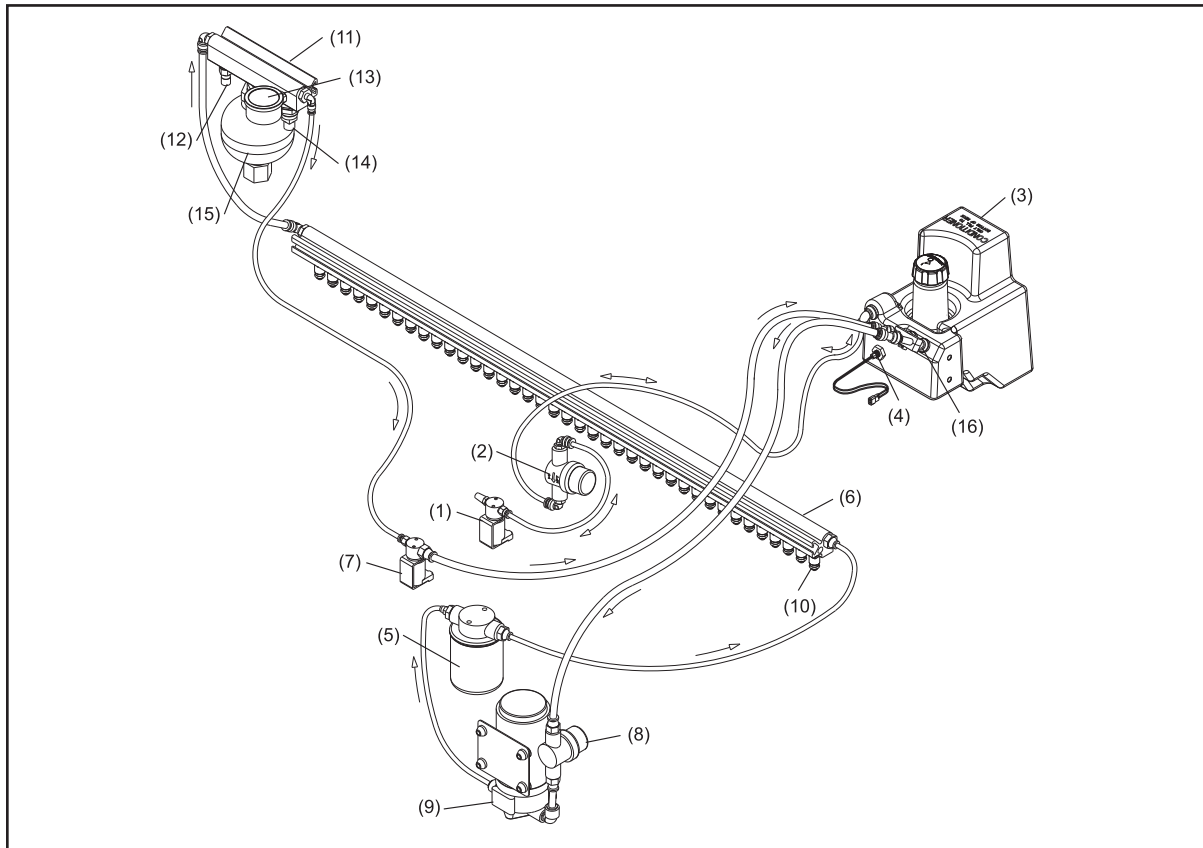

Figure 7-5. Conditioning System
1. The machine applies conditioner directly to the lane surface in a pattern specified by the user. Refer to *Figure 7-5*.